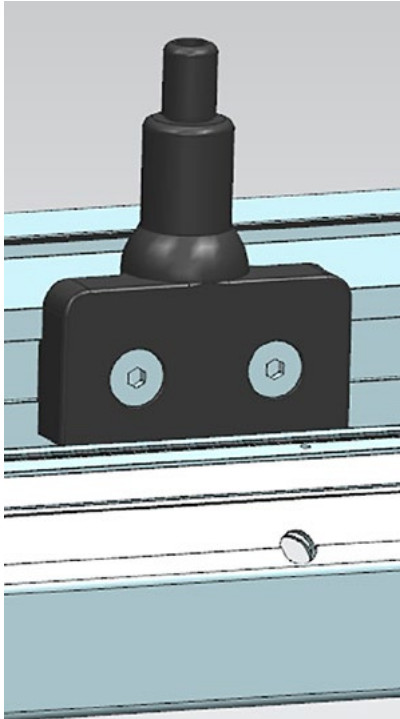

Figure 12: Reutlinger connector in lower mounting block.
3. Mount a Reutlinger connector (Figure 2, page 8) in each lower mounting block, see Figure 12.